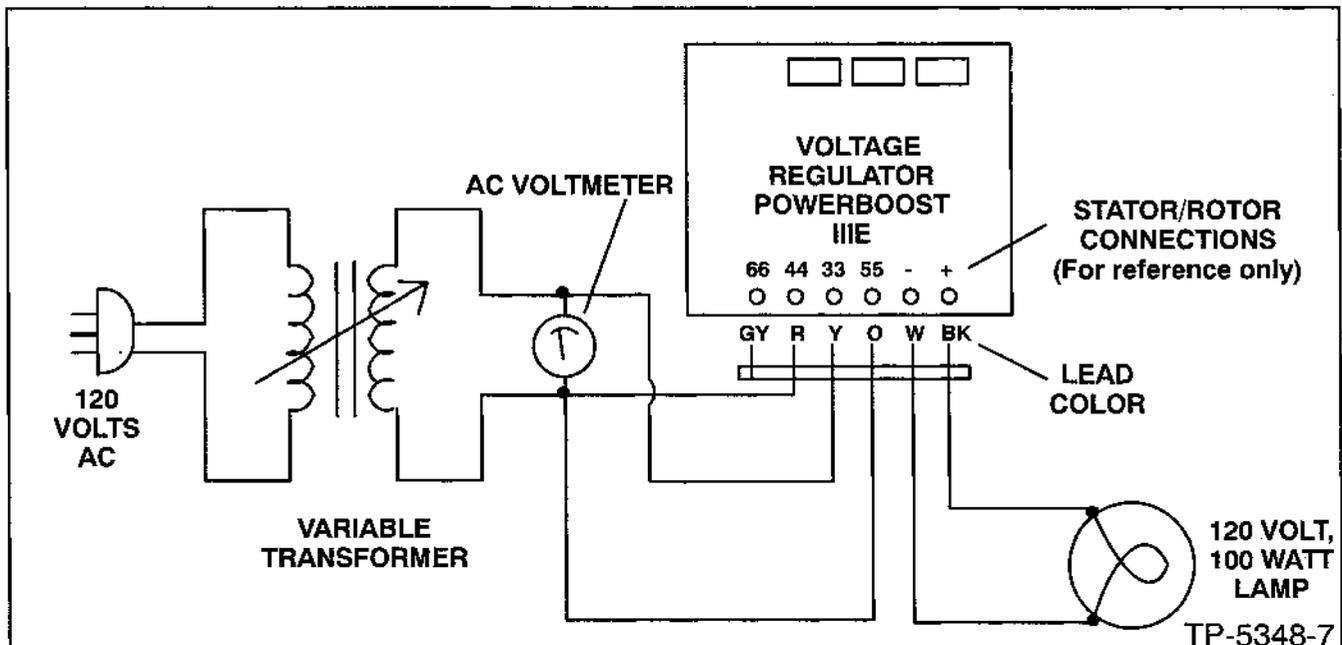

Figure 7-3. PowerBoost IIIE Voltage Regulator Test.
1. Connect components as shown in Figure 7-3.